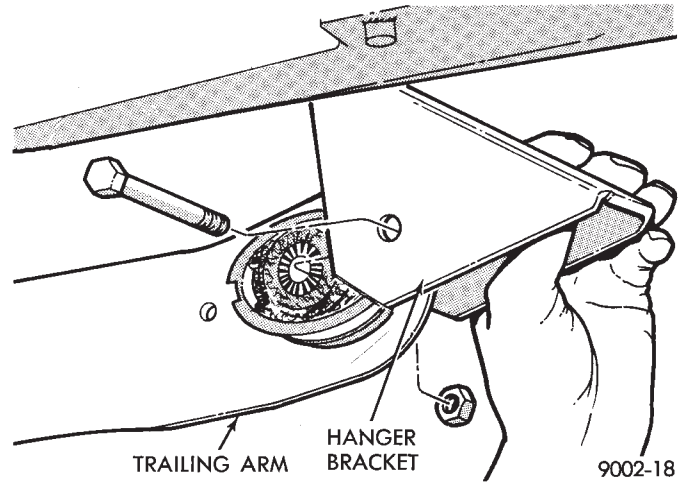

Fig. 11 Install Hanger Bracket to Pivot Bushing
(3) Position hanger bracket on pivot bushing, and install through bolt, loose assemble nut (Fig. 11). Right side trailing arm shown.